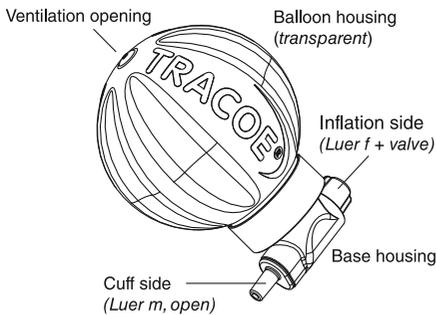

Fig. 1: Components and connectors of the TRACOE smart Cuff Manager
The TRACOE smart Cuff Manager includes a spherical, hard shell (transparent) outer casing with an elastic inner balloon (blue), which is attached to a base housing with both a male and female luer connector (figure 1). This device is designed to ensure that the endotracheal/tracheostomy tube cuff pressure remains within the range of 20 cmH₂O to 30 cmH₂O while in use. This range is achieved through passive control, with the inner balloon (blue) of the device acting as a pressure reservoir allowing the flow of air between the balloon and the endotracheal/tracheostomy cuff to maintain the pressure range.
CAUTION: The damping function of the inner balloon is only effective in one direction to allow inflation or monitoring of the endotracheal/tracheostomy cuff pressure and therefore, it is not active when a cuff pressure monitor or syringe is inserted in the luer -connector (on the inflation side of the device (figure 1).
The elastic inner balloon (blue) is located inside a spherical hard shell (transparent) outer casing. This inner balloon is connected to the base housing (white), which has two luer-connectors (figure 1):
This female luer connector has an incorporated self-sealing valve which prevents air flow upon removal of a syringe or pressure measuring unit, see figure 1.
- Prevent fluids from entering the TRACOE smart Cuff Manager ventilation opening (top of the outer casing, figure 1); e.g. do not bath or shower with the device attached.